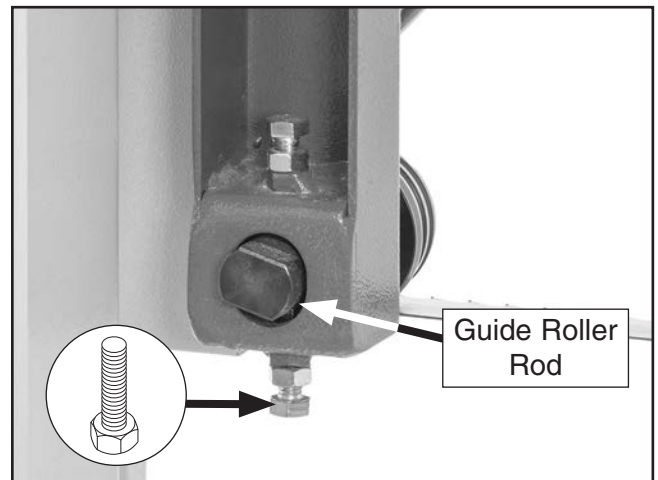

Figure 33. Guide roller adjustment components.
3. Loosen lower hex bolt on guide roller enough so guide roller rod can be moved toward or away from blade (see **Figure 33**).